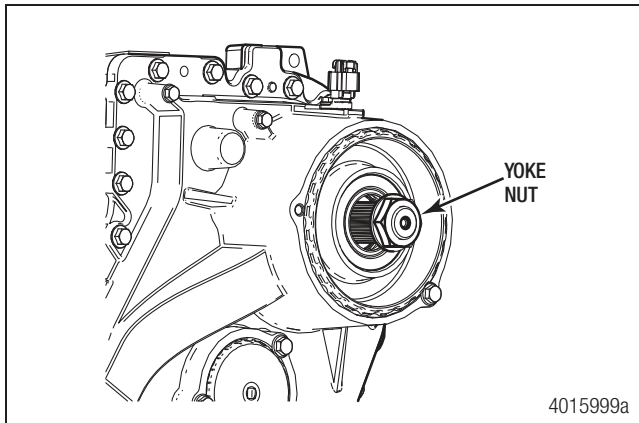

Figure 7.40
- Temporarily install the yoke nut to use as a lifting surface when checking the end play. Figure 7.40.